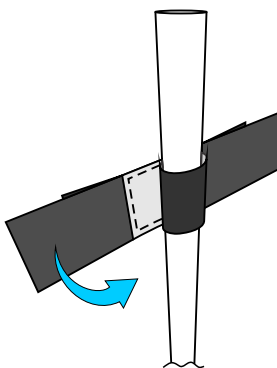

Fig 2.2B
2. Bring the velcro tab around the rail. Ensure the strap remains tight (see Fig 2.2B).